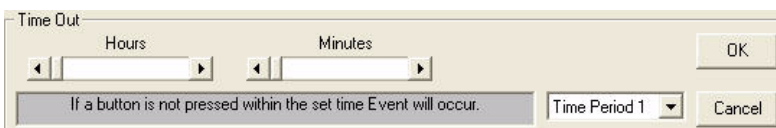

FIG. 115 Time Out window
2. This invokes the *Time Out* window (FIG. 115):